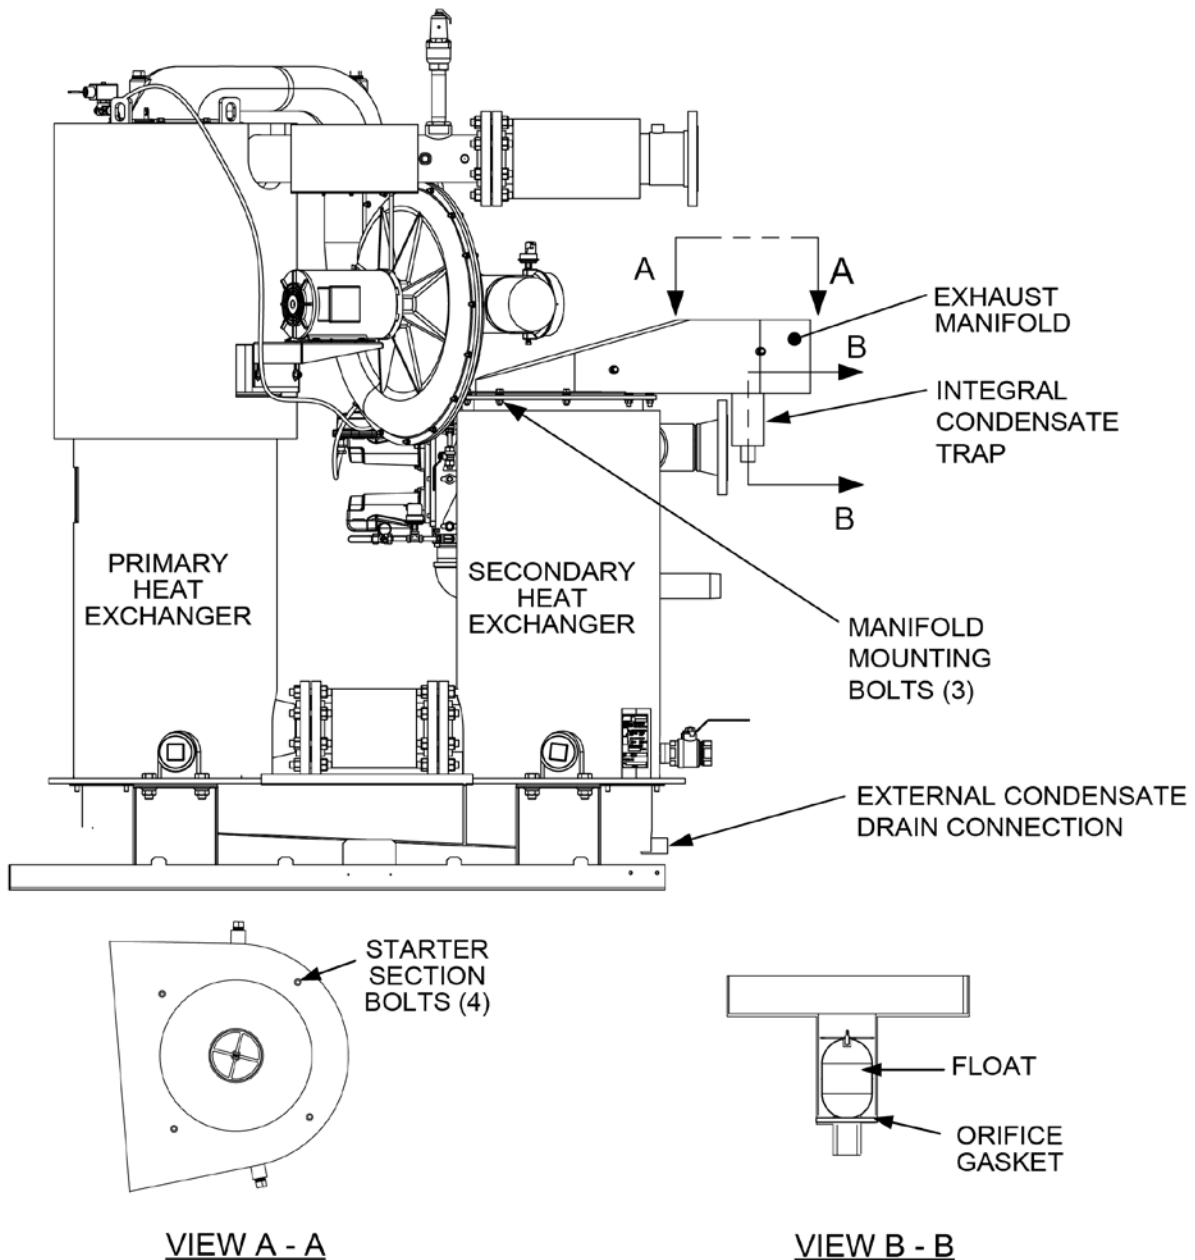

Figure 8: Benchmark 3.0LN Exhaust Manifold & Condensate Drain Locations
There are two Condensate Trap locations in a BMK 3.0LN boiler; the Exhaust Manifold with integral condensate trap and a lower connecting manifold with connections for an external Condensate Trap (P/N **24060**). Both locations are shown in Figure 8.
1. Remove the four (4) bolts securing the flue starter section collar to the top of the exhaust manifold.
4. Using a 3/4" socket wrench, remove the five (5) bolts securing the exhaust manifold to the heat exchanger (Figure 8). Also, remove the three (3) hex nuts from the manifold PEM studs. Remove the complete exhaust manifold from the unit.
8. Replace the exhaust manifold seal (part no. 49102) with the new seal provided in the kit. Install the adhesive-backed seal in the recess of the exhaust manifold flange (Figure 8) so that the adhesive side is in contact with the exhaust manifold.
9. Align the exhaust manifold with the upper flange of the secondary heat exchanger. Secure the manifold in place using the five (5) bolts removed in step 4. Also, replace the hex nuts on the three (3) PEM studs. Alternately tighten the bolts and nuts to obtain a uniform seal.